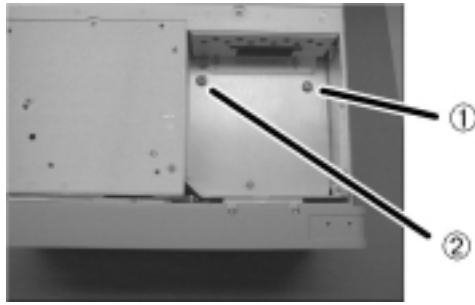

Figure 3-75. Removing the screws fastening the optical assembly to the top of the instrument
- 6 Remove the two screws beneath where the printer was mounted that fasten the optical assembly to the instrument chassis. See ① and ② in Figure 3-75 below.